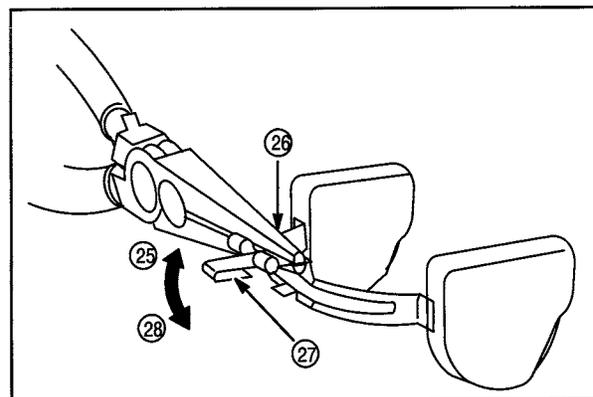

Fig. 93
To adjust float level, hold float arm at (26) with needle nose pliers, **Fig. 93**. Carefully bend tang CLOCKWISE (25) to raise the float level, COUNTER-CLOCKWISE (28) to lower the float level. DO NOT collapse hooked end of float tang (27).